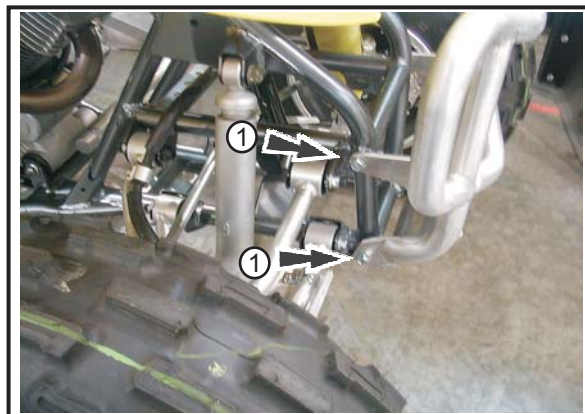

Fig. 1
2 Place performance front bumper into position and install with supplied 8mm bolts. ① (See Fig 1)